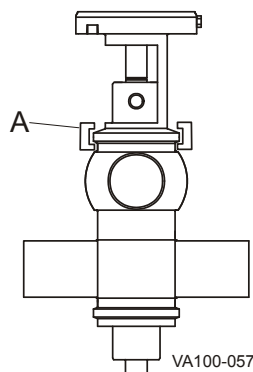

Figure 18 - Location of Adapter Clamp
5. Remove the clamp between the yoke and the adapter (Figure 18, item A).